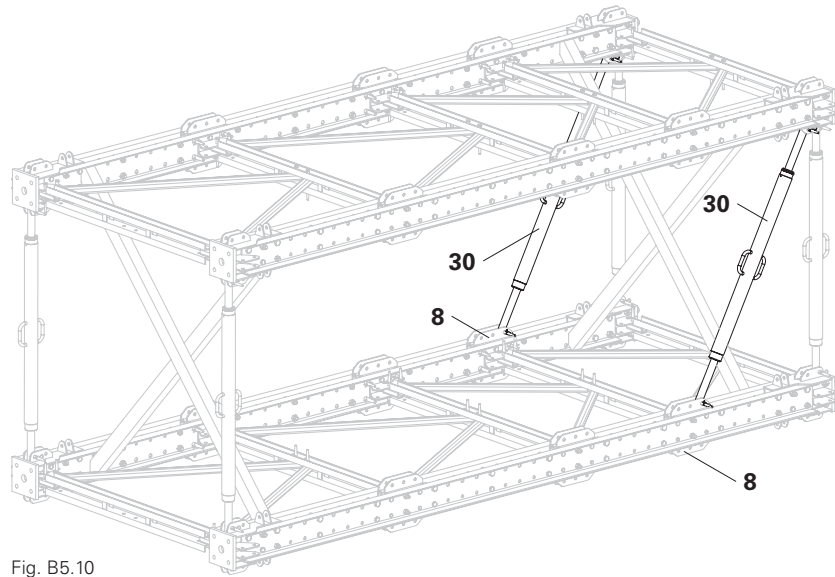

Fig. B5.10
1. Insert the appropriate heavy-duty spindle SLS (30) into the connection of the prop base VST 48 (17).
2. Connect the heavy-duty spindle SLS (30) to the bracing connector VST (8) and prop base VST 48 (17) by means of 1x fitting pin  $\varnothing$  21 mm (9) each. (Fig. B5.10)